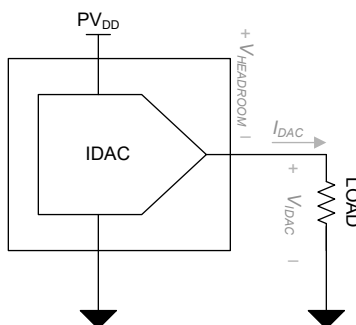

Figure 8-2. IDAC Power Dissipation
- The power dissipation of the IDAC channel is a function of the PV_{DD} supply voltage, the current output, and the voltage of the IDAC pin (V_{IDAC}). The headroom voltage (V_{HEADROOM}) is calculated as the difference between PV_{DD} and V_{IDAC}. Minimize V_{HEADROOM} to reduce the power dissipation of the device while also meeting the minimum V_{HEADROOM} requirement. The IDAC output cannot source the full-scale current output if V_{HEADROOM} is lower than the specified voltage. Figure 8-2 shows the output current directions and the key voltages that impact power dissipation. The IDAC output contributes to power dissipation proportionally to the output current multiplied by the V_{HEADROOM} voltage.